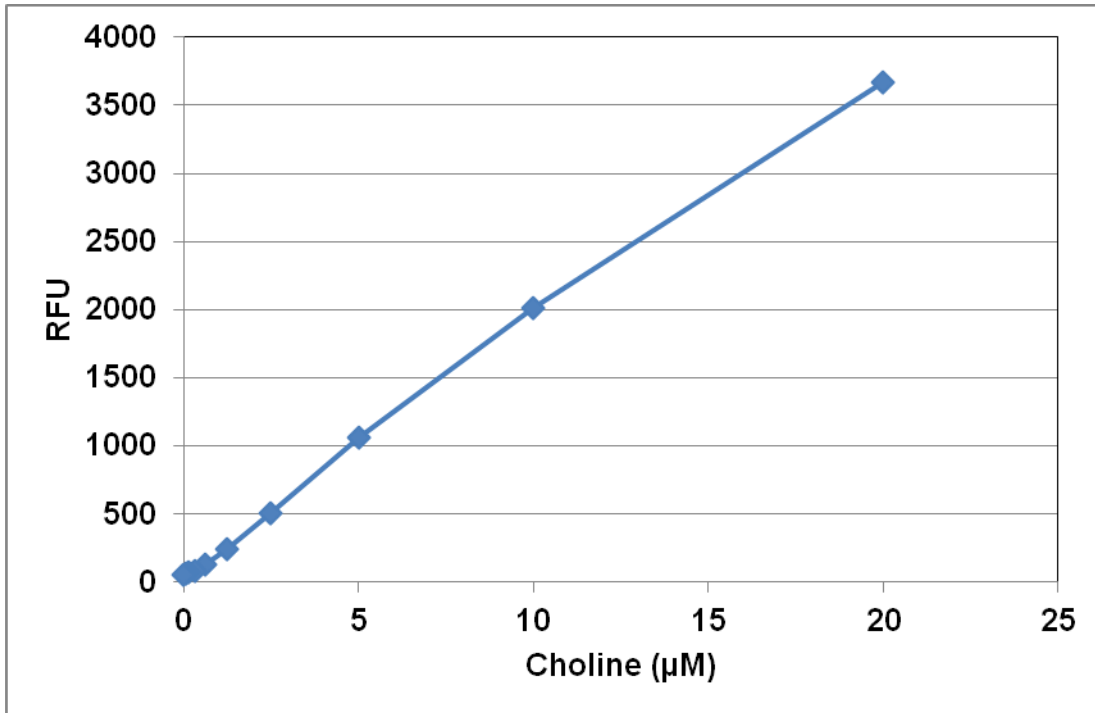

Figure 2: Choline Standard Curve.
2. Plot the corrected fluorescence for the standards against the final concentration of the choline standards from Table 1 to determine the best curve. See Figure 2 for an example standard curve.